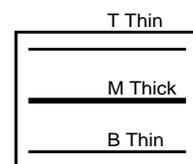

Fig.2
- 4) If the focus at points T and M is as shown in Fig. 2, adjust V-DBF in the menu with the front buttons to make the horizontal lines have the same thickness at points T, M and B. And adjust the FOCUS-B VR again to make the horizontal lines sharpest at points T, M and B. (V-DBF should not be adjusted when focus at points T and M is optimum.)